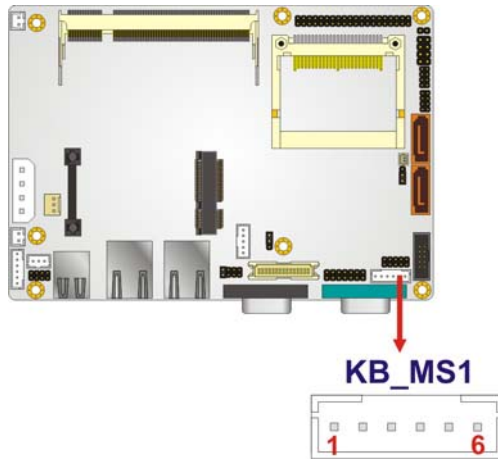

Figure 3-9: Keyboard/Mouse Connector Location
- CN Location:** See **Figure 3-9**